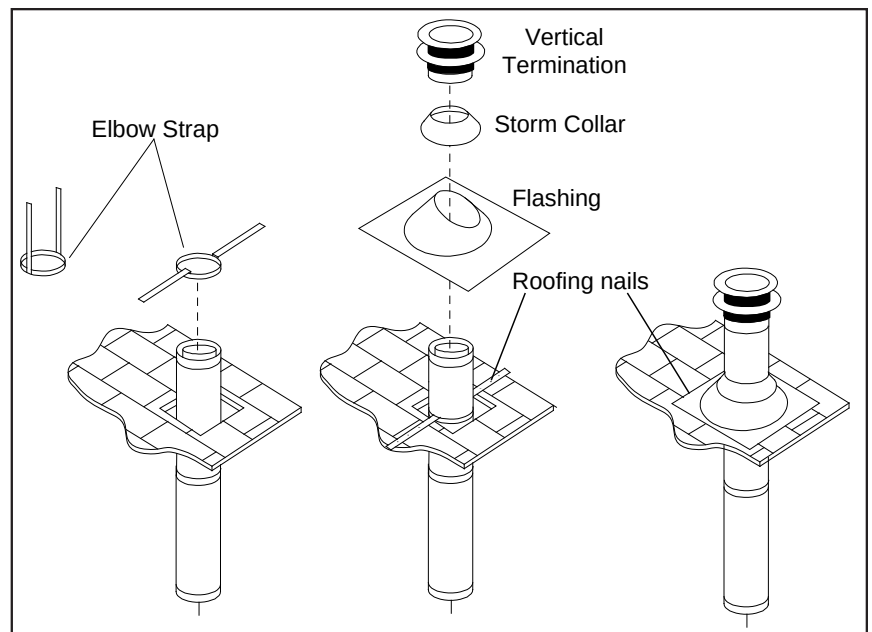

Figure 43: Vertical Vent Termination Installation.
6. Once the pipe sections have been joined, and run up through the hole in the roof, slip an elbow strap over the exposed sections, bend the support straps outwards, and push the elbow strap down to the roof level, as shown in Figure 43. Tighten the clamp around the pipe section. Use a level to make sure the pipe is truly vertical. With roofing nails, secure the support straps to the roof. Seal the nail holes heads with non-hardening mastic. Trim the excess length of the support straps that extend out beyond the edge of the flashing.
7. Slip the flashing over the pipe section protruding through the roof. Secure the base of the flashing to the roof with roofing nails. Use a non-hardening sealant between the uphill edge of the flashing and the roof. Insure the roofing material overlaps the top edge of the flashing as shown in Figure 43. Verify that you have at least the minimum clearance to combustibles at the roof line.
9. Slip the storm collar over the pipe, and push it down to the top of the roof flashing as shown in Figure 43. Use the non-hardening sealant around the joint between the pipe and the storm collar.